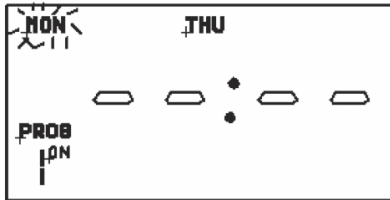

Figure B-12: Duplicating program
- Press 'TIME' button then the icon 'MON' will be flashing. Refer to Figure B-12.